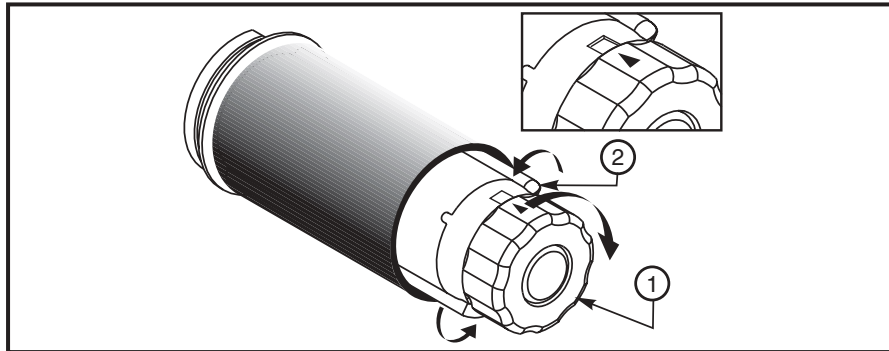

Figure 8. Removing Used Ribbon
6. Before wrapping the ribbon around the Take-Up Spindle, ensure that the arrow on the knob aligns with the indented notch (see Figure 8 inset).
2. Refer to Figure 8. While holding the Ribbon Take-Up Spindle, turn the knob (1) clockwise until it stops. This will cause the Ribbon Release Bars to pivot down (2), easing the spindle’s “grip” on the wound ribbon.